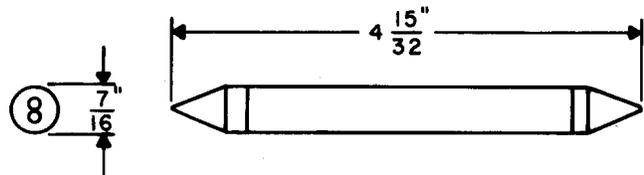

Fig. 7—472A, B, and C Line Switch Test Tools
2.07 **472A, B, and C:** The 472A, B, and C line switch test tools (Fig. 7) are used on plunger-type line switches. Resistance is 1100 ohms for 472A, 1300 ohms for 472B, and 1650 ohms for 472C.